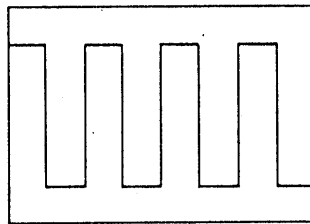

Figure 4
- (2) Pull out the INTEN knob of Programmable Oscilloscope COS5030A-PG and adjust it together with the FOCUS control so that the displayed trace image becomes sharpest.
- (3) Pull out the CH1 POSITION knob of Programmable Oscilloscope (COS5030A-PG and adjust it together with the TRACE ROTATION control (screwdriver adjustment) so that the trace is aligned with the horizontal center line of the graticule.
- (4) Connect the 960BNC probe (accompanies the oscilloscope) to the CH1 INPUT terminal. Connect the probe tip to the CALIB terminal of Programmable Oscilloscope COS5030A-PG. (Set the attenuation ratio of the 960BNC probe at 10:1.)
- (5) Change the AC-DC-GND switch of Remote Controller RC01-COS to the AC, GND-OFF state. A calibration signal waveform as shown in Figure 4 will be displayed on the CRT.